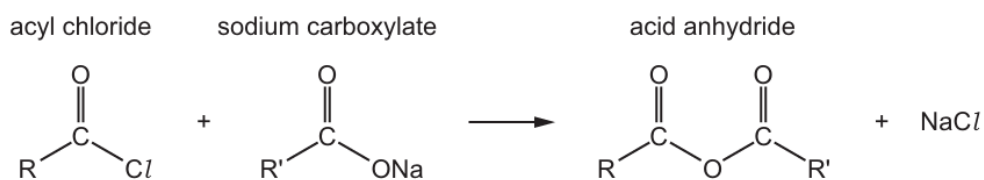

Fig. 5.1
- 4 (e) Acyl chlorides react with sodium carboxylates to form acid anhydrides as shown in Fig. 5.1.
- (i) Use Fig. 5.1 and Fig. 5.2 to suggest the structures of the two monomers used to make this polyanhydride.